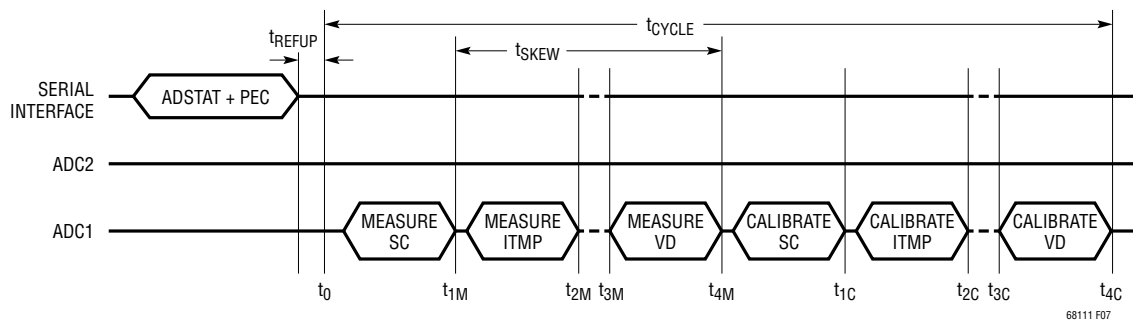

Figure 7. Timing for ADSTAT Command Measuring SC, ITMP, VA, VD
of all Cells (SC), Internal Die temperature (ITMP), Analog Power Supply (VA) and the Digital Power Supply (VD). These parameters are described in the section below. All the 8 ADC modes described earlier are available for these conversions. See the section on Commands for the ADSTAT command format. Figure 7 illustrates the timing of the ADSTAT command measuring all 4 internal device parameters.